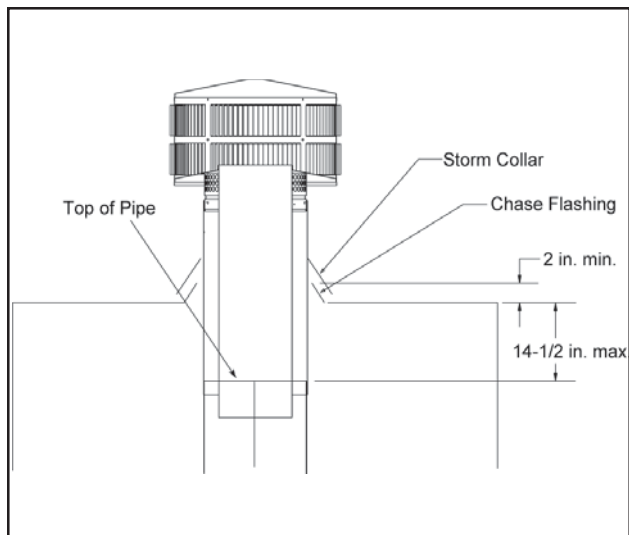

Figure 23 - Installing a TR342 Round Telescoping Termination Cap
- For installations utilizing a TR342 telescoping round termination cap, the uppermost chimney section must be below the top of the chase top, but not more than 14-1/2 in. below the top of the chase top flashing collar. See Figure 23.